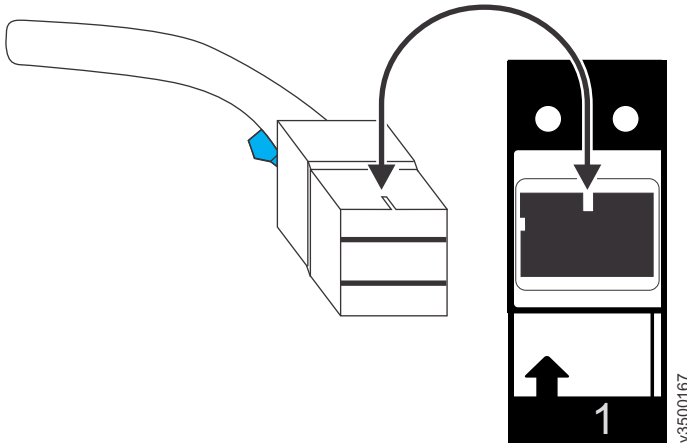

Figure 102. Proper orientation for SAS cable connector
- Figure 102 shows the correct orientation. The blue tab is always below the port for expansion enclosure attachment SAS cables.